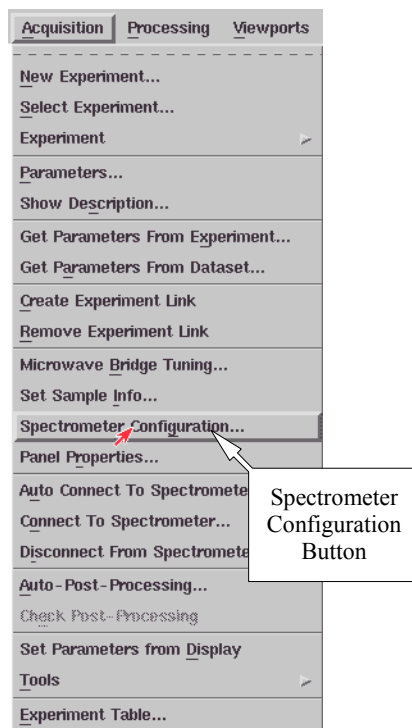
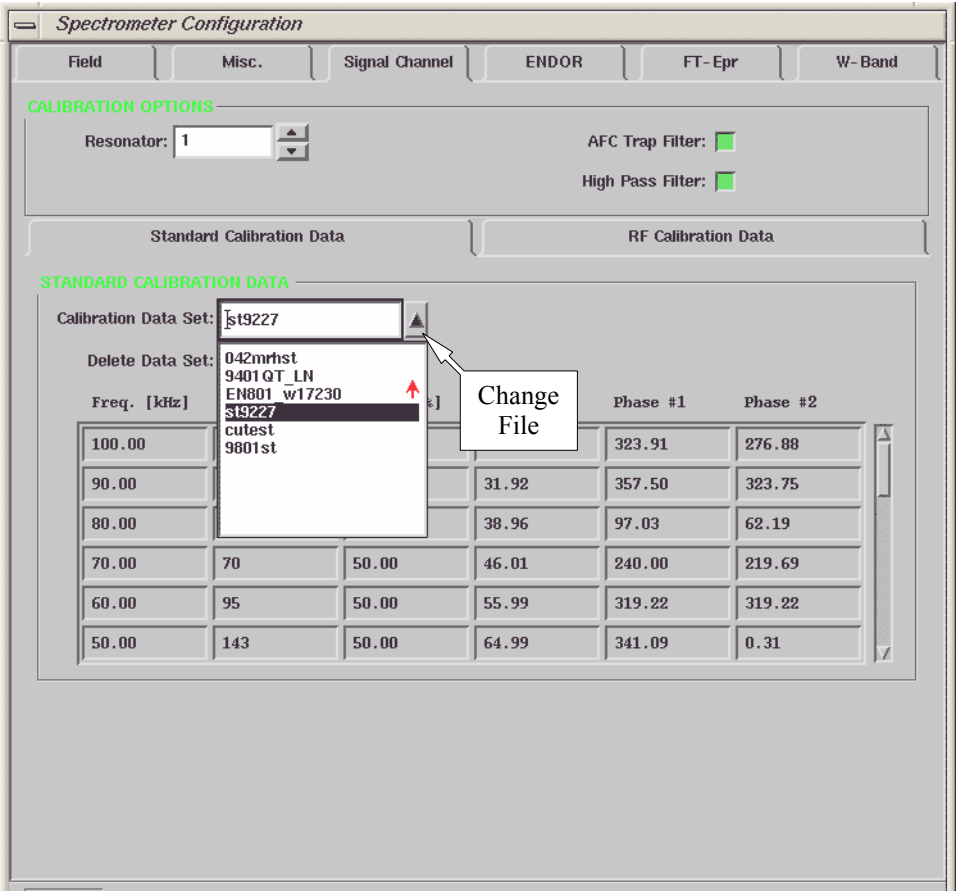

Figure 7-19 The Spectrometer Configuration button.
Figure 7-20 Selecting a calibration file.
23. **Read in the calibration file for the cavity.** Click Acquisition in the menu bar and then click Spectrometer Configuration. (See Figure 7-19.) The Spectrometer Configuration dialog box will then appear. (See Figure 7-20.)